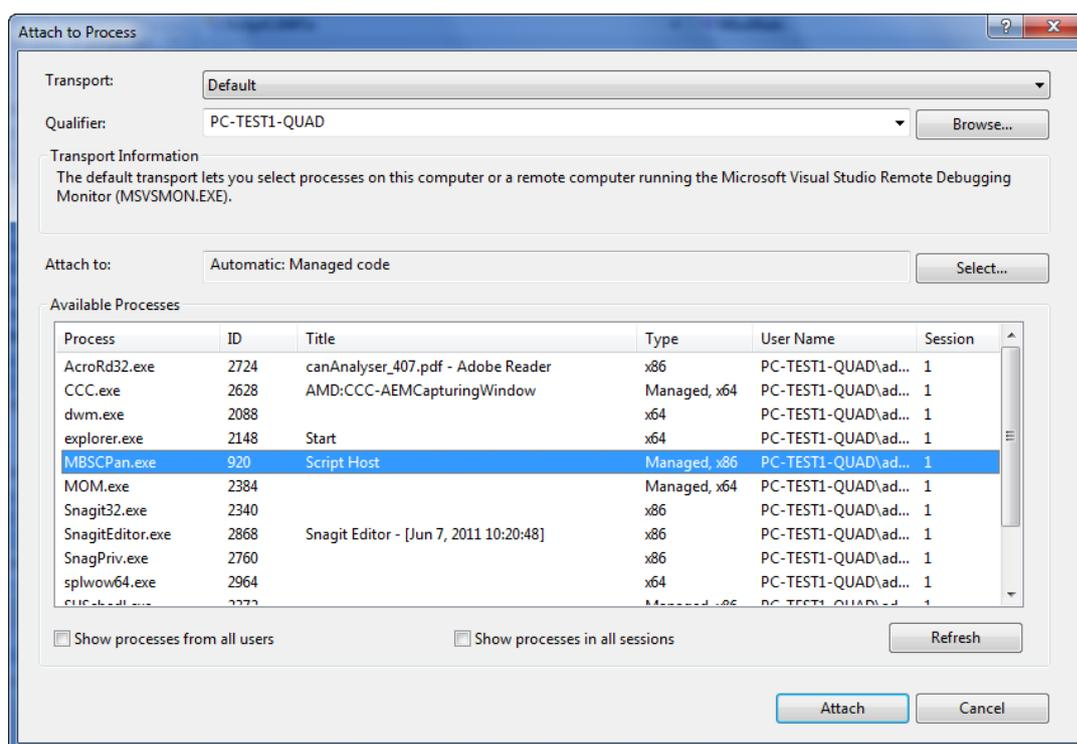

Figure 5.70: Attaching debugger to the canAnalyser
- In the displayed **Attach to Process** dialog (Fig. 5.70) select the canAnalyser process (MbsCPan.exe), and simply press the **Attach** button.